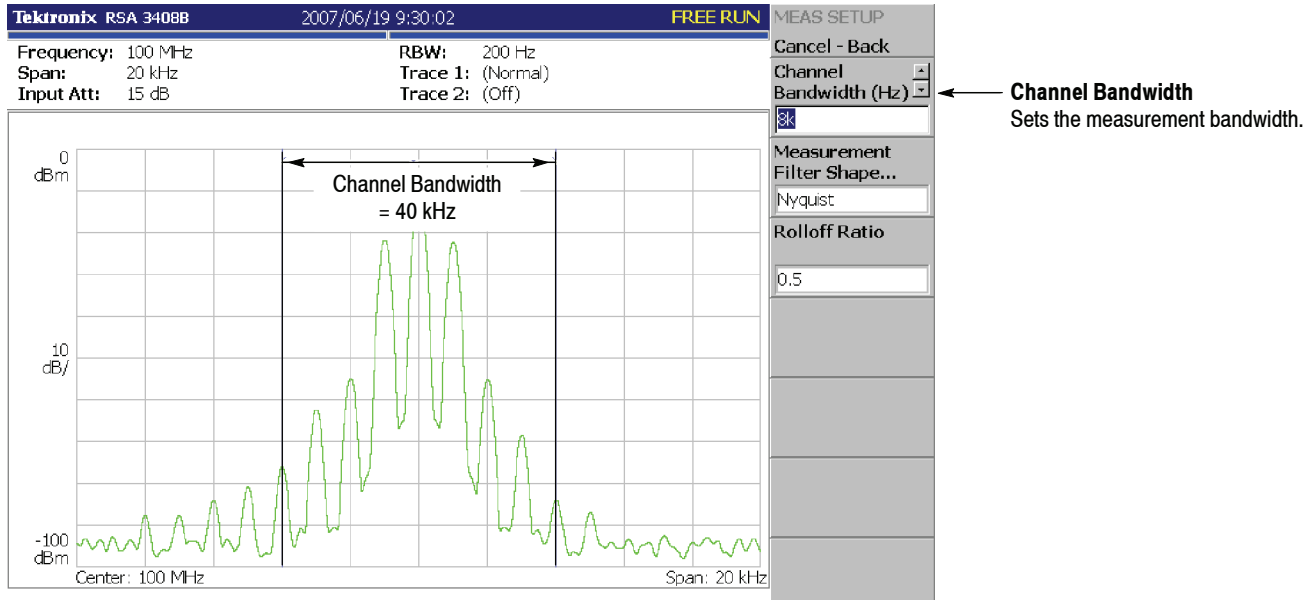

Figure 2-49: Channel power measurement (Channel Bandwidth = 40 kHz)
2. The **Channel Bandwidth** menu item is selected. Using the general purpose knob, set the measurement range to 40 kHz for example. See the display in Figure 2-49.